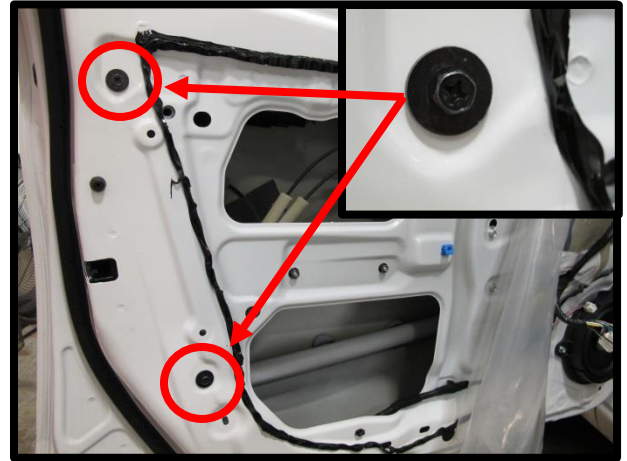

Figure 7
**All Except Sentra Left Rear Door.** See Figure 7.
- Remove the (2) 10mm run channel retaining bolts.